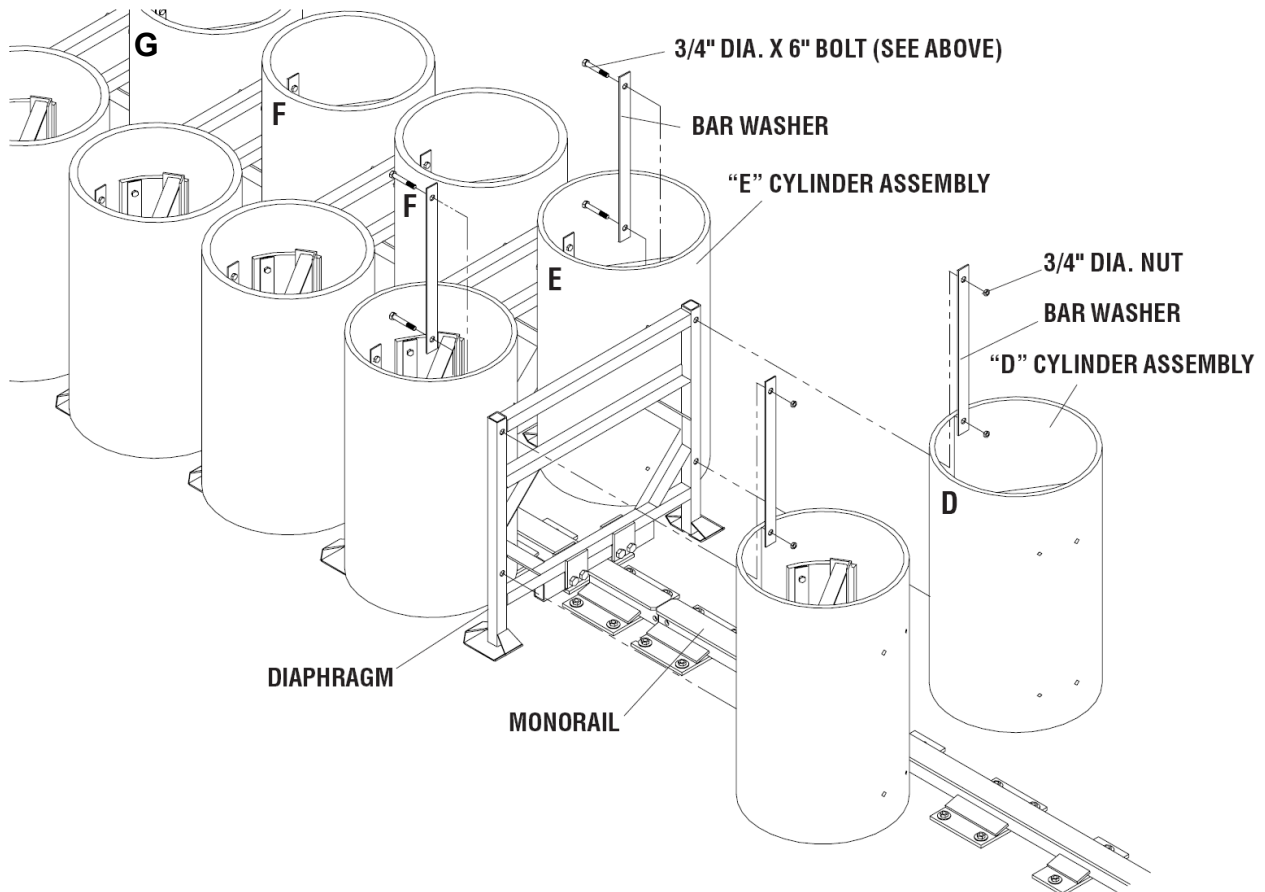

Figure 10
3. Reassemble "D" Cylinder/Diaphragm Assembly onto "E" Cylinder Assemblies as shown in Figure 10.